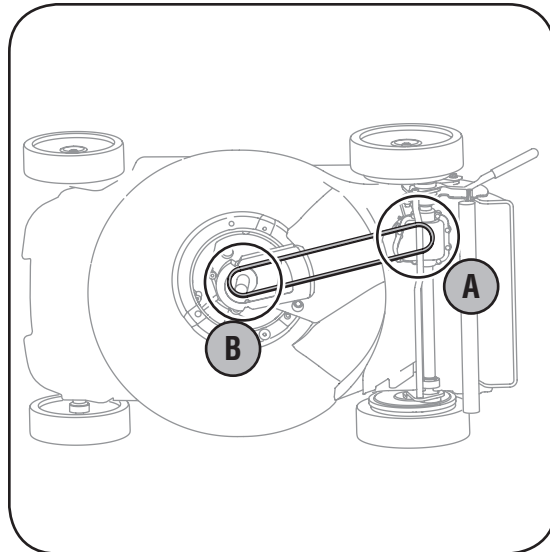

Figure 5-5: Remove belt from transmission and engine pulley.
- b. Once belt is off transmission pulley, push down on deck baffle to access engine pulley and slide belt off this pulley and out from under the deck. See Figure 5-5.